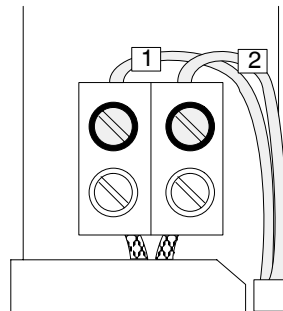

Figure 12 Connect the Heater
1. On the heater side of the pivot sleeve, loosen the two screws on the heater terminal block as shown in Figure 12. Insert wires 1 and 2, extending from the hose, into the terminal block.